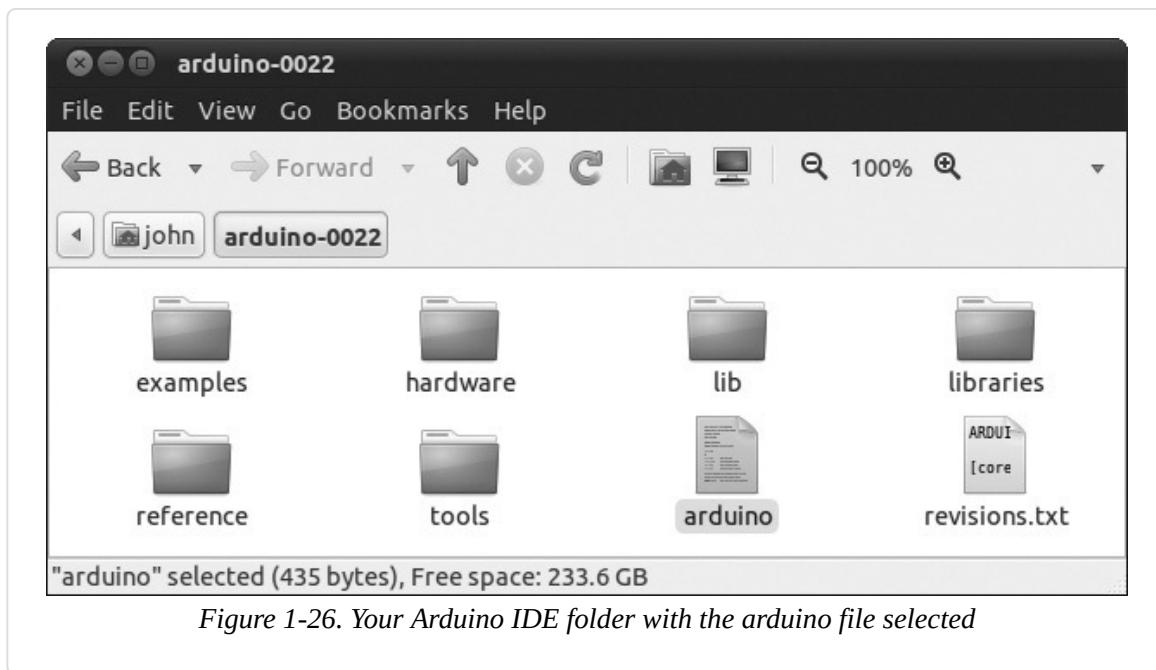

Figure 1-26. Your Arduino IDE folder with the arduino file selected
1. Connect your Arduino to your PC with the USB cable. At this point you want to run the Arduino IDE, so locate the *arduino-0022* folder you copied earlier and double-click the *arduino* file that's selected in Figure 1-26.